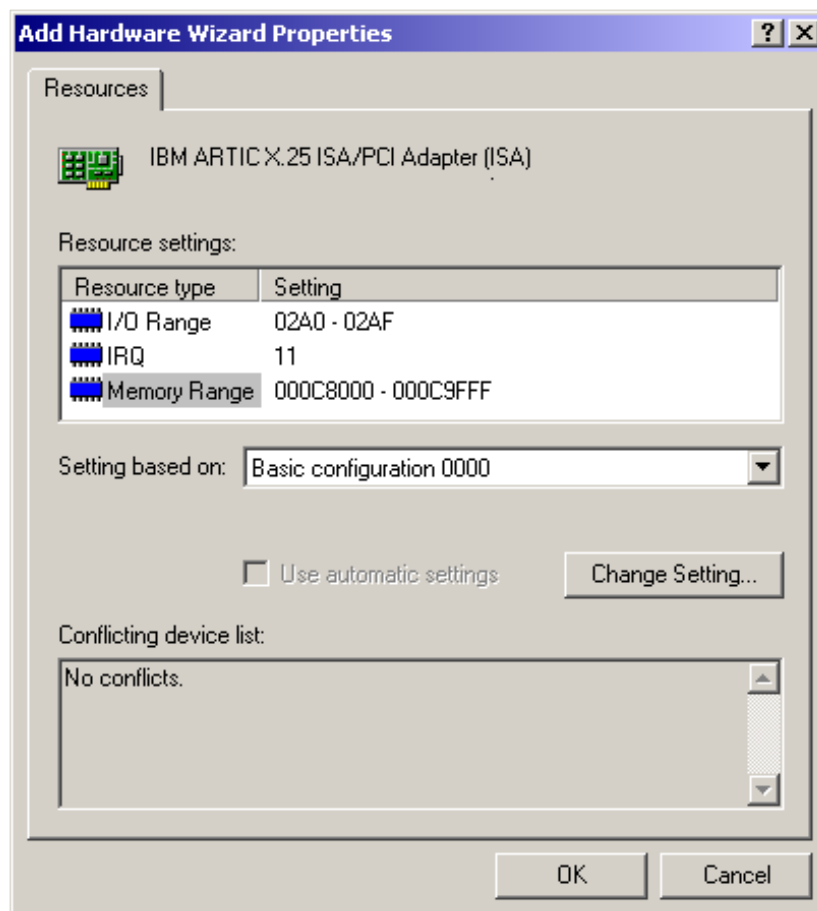

FIGURE 202. Completed edit of Resource window
51. Verify that your settings match Figure 202.